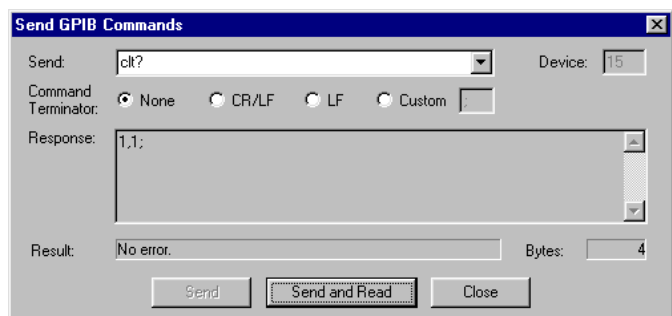

Figure 4. Verifying that CLTC is the low-temperature control mode
3. If the system has switched to CLTC, the **Response** area should now display "**1,1**" (as is shown in Figure 4).